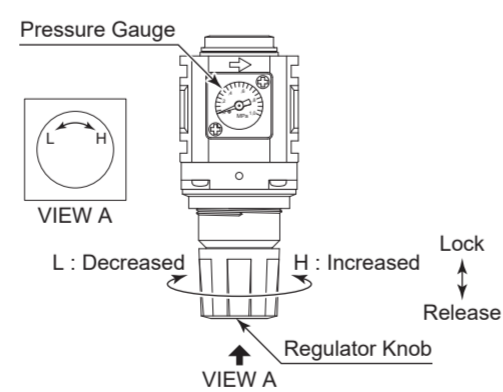

Fig. 14
- Fill Oil Reservoir through the Oil Filler Cap with recommended NAKANISHI Lubricating Oil (K - 211 : Air Line Kit's Standard Accessories) to Upper Limit of the Fig. 14. Disconnect from air supply prior to opening Oil Filler Cap. Do not over or under fill.
### ② Regulator (Fig. 14)